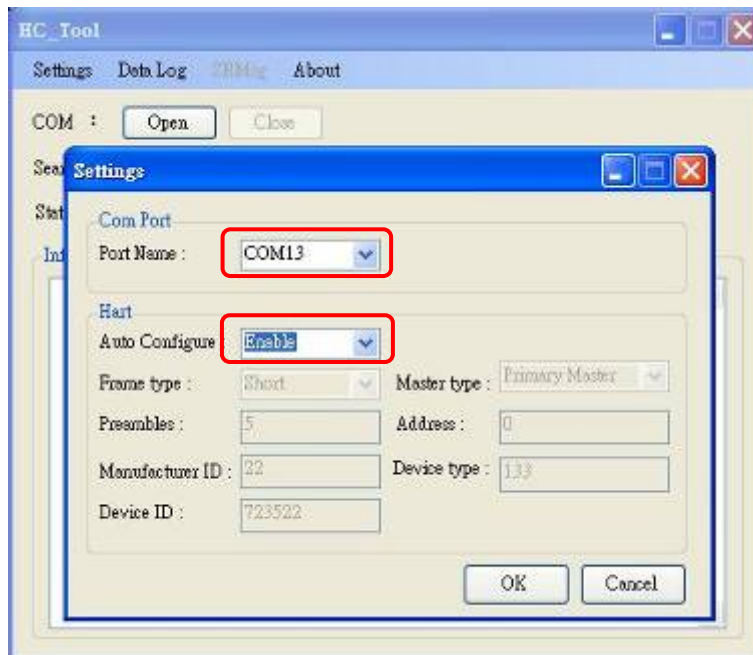

Figure 3-2: Set Com Port and HART Command Parameter
**Step3:** Set the “Port Name” and “Auto Configure” parameters like Figure 3-2.